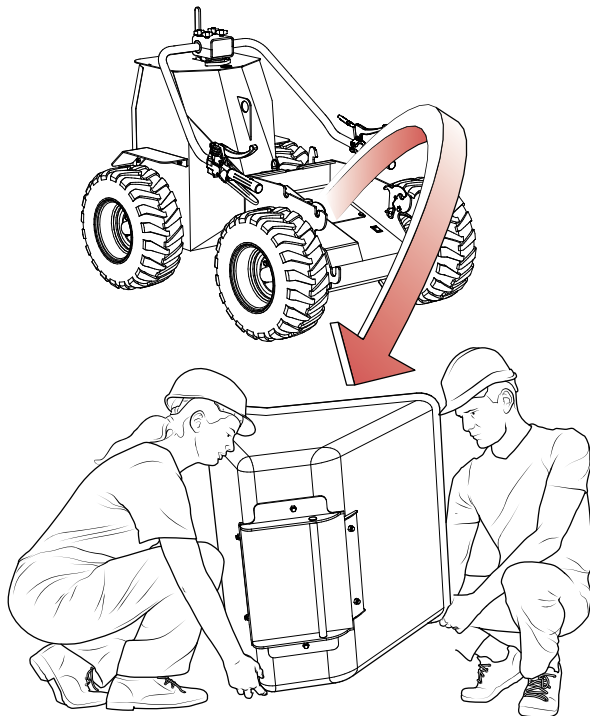

Figure 27. Tub Removal
2. With **two people**, lift and remove the tub (Figure 27). Place the tub onto its side away from the unit.